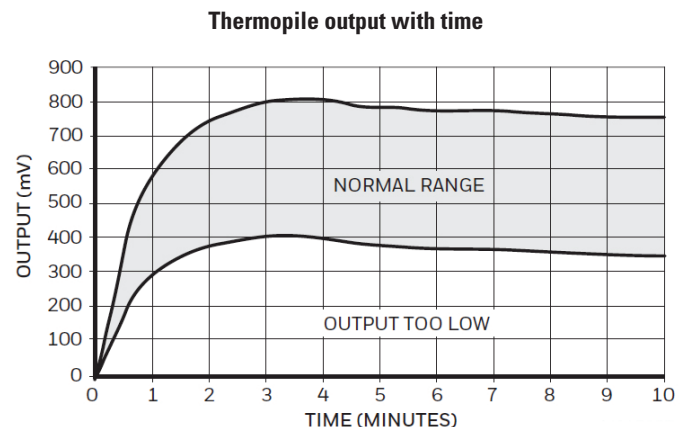

Fig. 7. Thermopile output.
5. Output should be at least 350 mV. (See Fig. 7.) Connect the 3.6 ohm resistor between the two thermopile leads. The voltage should be at or higher than one half of the open circuit voltage.